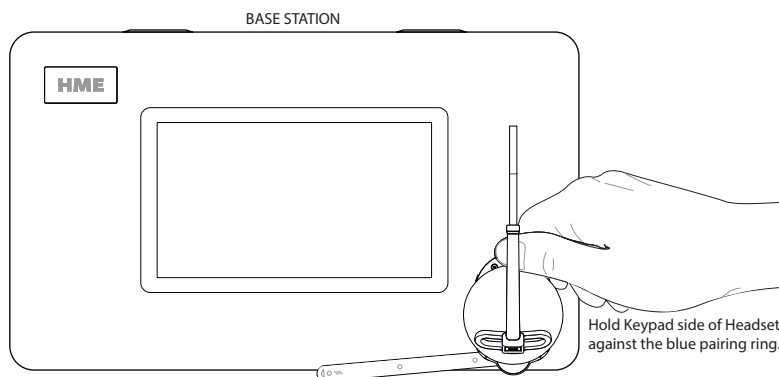

Fig. 6.2
2. Hold the keypad side of the headset against the Headset Pairing Ring (solid blue circle) on the Base Station to pair (Fig. 6.2). Pairing begins automatically as soon as the headset is sensed.